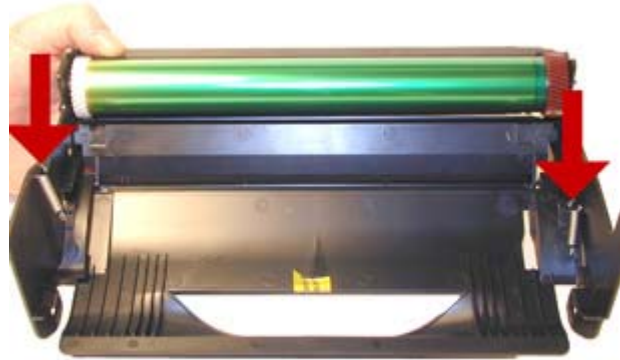

Figure 33
33) Make sure both springs are in their respective holes in the cartridge side walls. See Figure 33